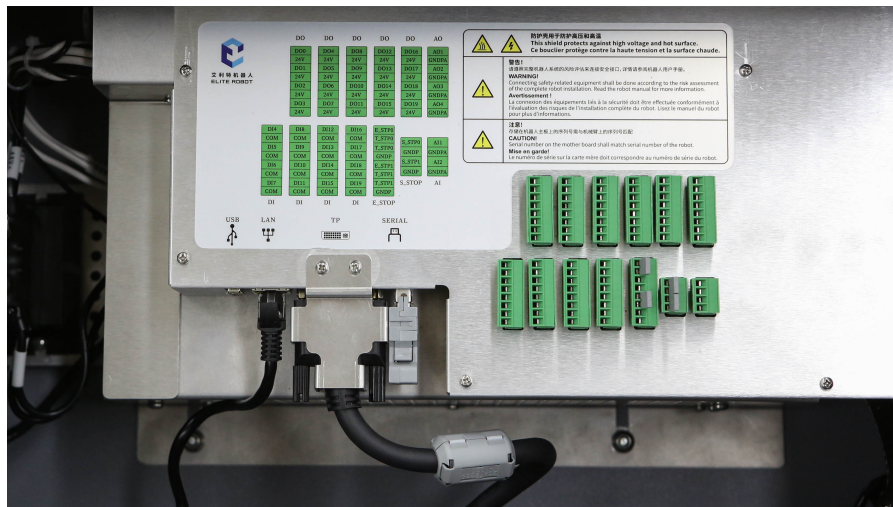

Figure 5-8 : Restore controller
6. Insert the terminals on the IO board as they are, as shown in **Figure 5-8** .